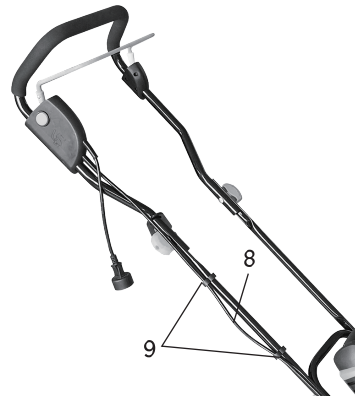

Fig. 6
5. Secure the control cord (8) with two wire clips (9) (Fig. 6).